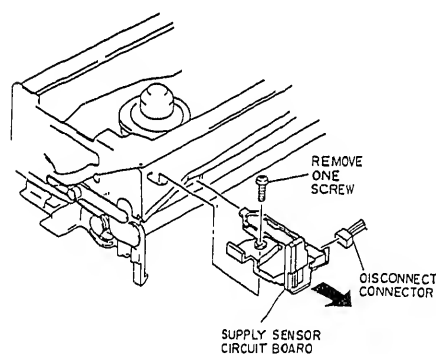
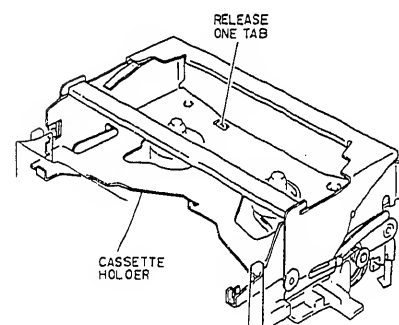

Fig. 2-51
Fig. 2-52
1. Disconnect connector CN001. (See Fig. 2-51)
2. Remove one (1) screw holding the supply sensor circuit board.
3. Release one (1) tab and lift up the cassette holder. (See Fig. 2-52)
4. Remove the supply sensor circuit board in the direction of the arrow. (See Fig. 2-51)